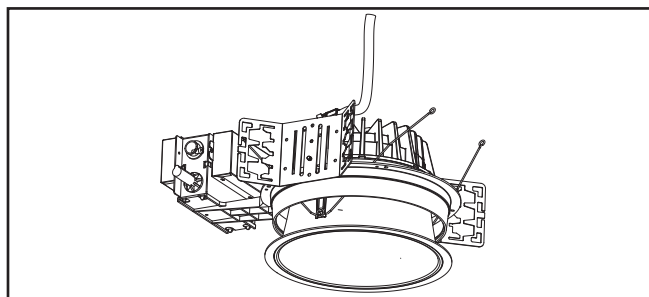

Figure 9
9. Install the LED engine and trim assembly by inserting the torsion springs into the spring receivers located inside the housing (Figure 9.).
1. Remove trim assembly from the housing (Figure 9.).